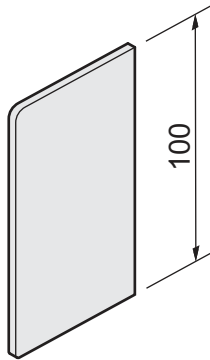

Figure 12.3
- (d) Figure 12.3 shows one of the clock sides cut out and shaped. The edges will be finished to a high quality.